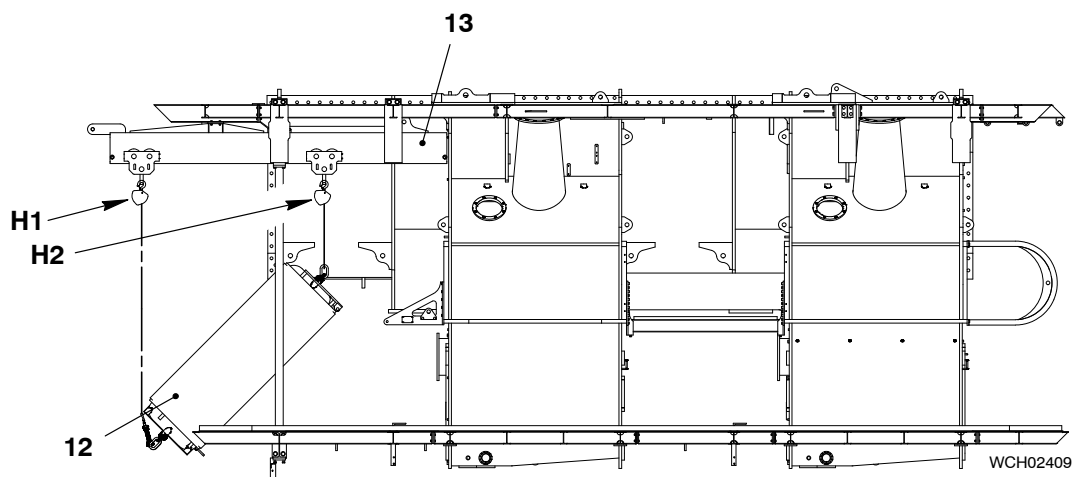

Fig. 15
- 3) Attach the chain blocks (H1, H2) to the trolleys on the rail (13).
- 4) Attach the six swivel lugs (94048-M30) to the front and rear of the SAC (12).
- 6) Attach the chain blocks (H1, H2) to the SAC (12).
- 7) Put the SAC (12) in position.
- 8) Operate the chain block (H1) to lift the front of the SAC (12). At the same time, move the chain block (H2) rearward (see Fig. 15).